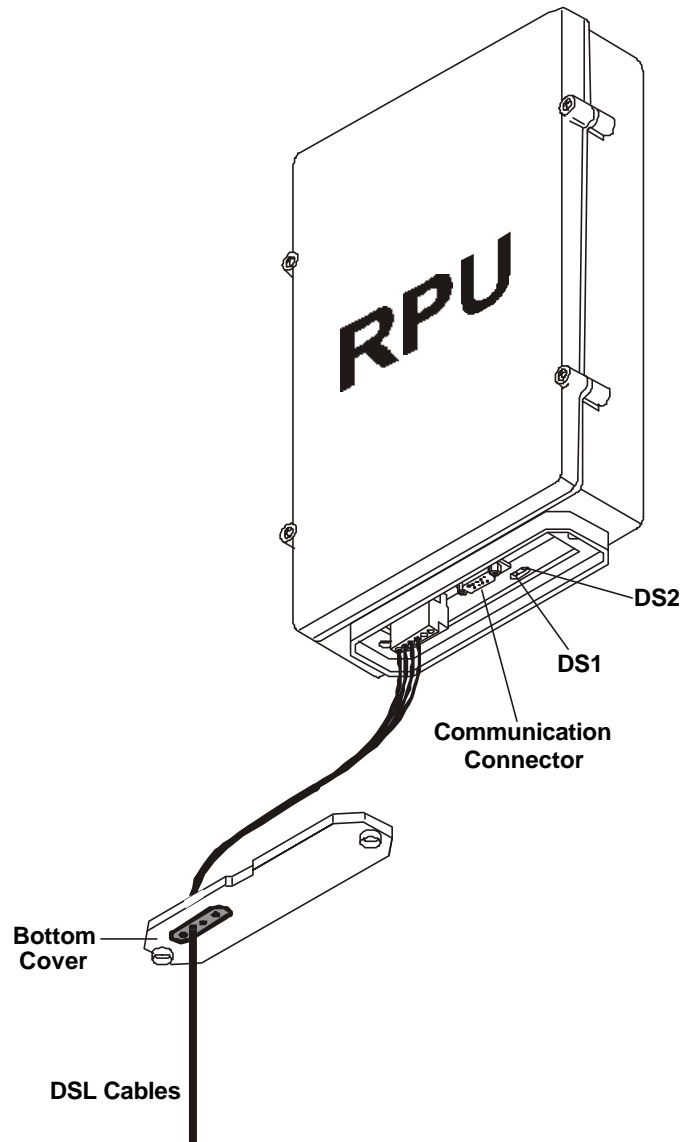
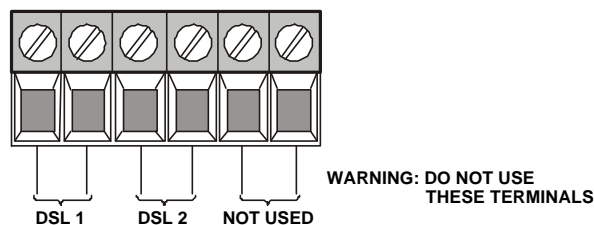

Figure 3-27. Connection of DSL Lines to the RPU
Figure 3-28. Connections to DSL Line Connector
Four. Refer to Figure 3-27 and Figure 3-28 and perform the following steps:
- (1) Unscrew the two screws that fasten the bottom cover of the RPU case.
- (2) Insert the DSL cable through the grommet in the RPU cover and connect the DSL lines to the DSL-1 and DSL-2 terminals on the DSL line connector as shown in Figure 3-27 and Figure 3-28. Make sure that each DSL wire pair is separately connected.